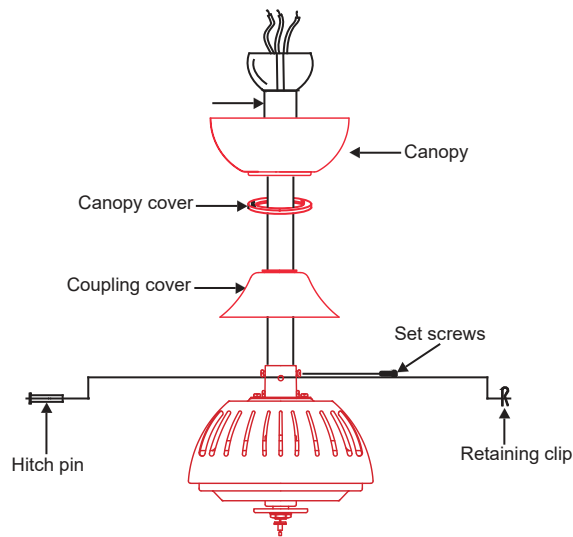

Fig. 9
Step 8. Slip the coupling cover, canopy cover and canopy onto the downrod. (Fig. 9)
Thread the hanger ball onto the downrod, insert the cross pin through the downrod and tighten. Now tighten the set screw. (Fig. 9)